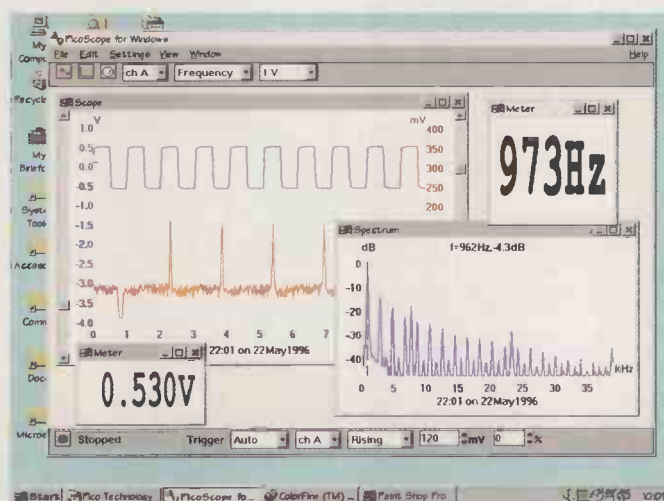

Fig. 4. A unique feature in the Windows version is the ability to open multiple views of the same signal.
The preceding discussion has centred upon the oscilloscope mode, but applies equally to the spectrum and meter modes are also available in *PicoScope* for Windows. A unique feature in the Windows version is the ability to open multiple views of the same signal, Fig. 4. This ability provides the opportunity to replace multiple instruments operating simultaneously. Figure 4 shows an oscilloscope window, spectrum window, frequency meter and voltmeter all operating from the same input, each with their own independent parameters. The disadvantage of this mode of operation is slower operation.
**Fig. 4.** Damping of Jenving's Supra Ply 2.0, which comprises 240 high purity copper (99.99% purity, oxygen free) strands specially impregnated with tin, with csa totalling 2.0mm2, in a rectangular, high mutual inductance profile. The quite thin, special PVC insulation has low emission of chloride ions. Outer sheath is ordinary PVC. Compare the rapid damping behaviour to that predicted by my model in Fig. 13 in Feb '96 EW.